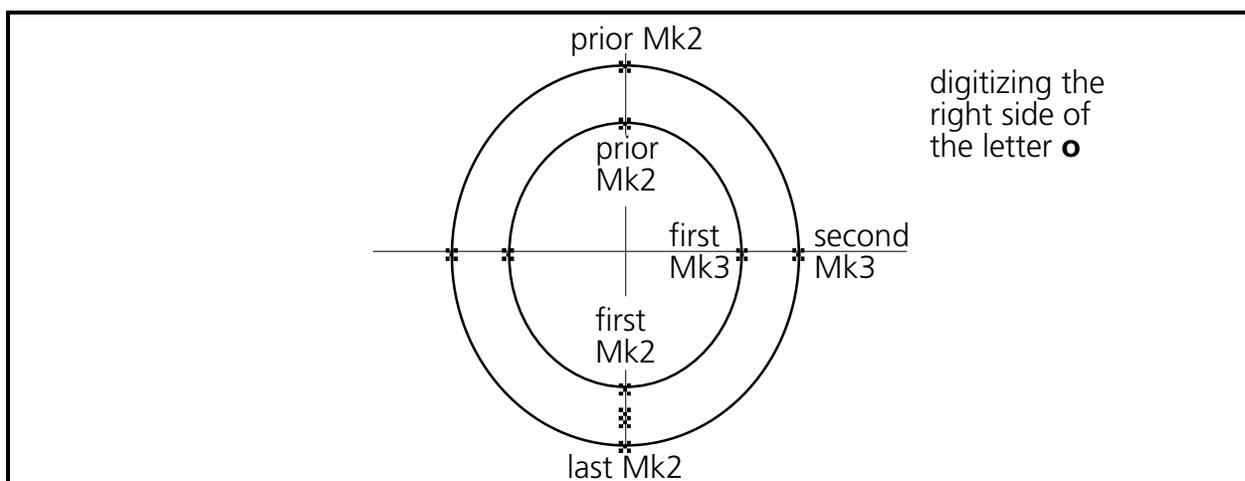

Figure 6-47
When digitizing 2 or more consecutive columns on an arc you do not redefine the beginning of the second (and additional) columns with a Mk1, Mk2. The last Mk2, Mk2 sequence of the prior column defines the start of the current column (see Figure 6-47).
7. The start of the right side column is already defined, therefore, enter a Mk3 for this column directly on the inside boundary of the column at the half way point to the bottom of the letter (see Figure 6-47).
8. Enter the second Mk3 on the line of the outside border of the circle and half way around to the bottom of the letter (see Figure 6-47).
9. Enter the first Mk2 for the end of this column at the bottom middle of the inside circle to define the end of the inside of the right half column (see Figure 6-47). This is the location where you started the column.
10. Enter the last Mk2 to define the end of the outside of the column at the bottom of the outside circle of the letter (see Figure 6-47). This is the same location where you entered the first Mk2, starting the column stitch digitizing.